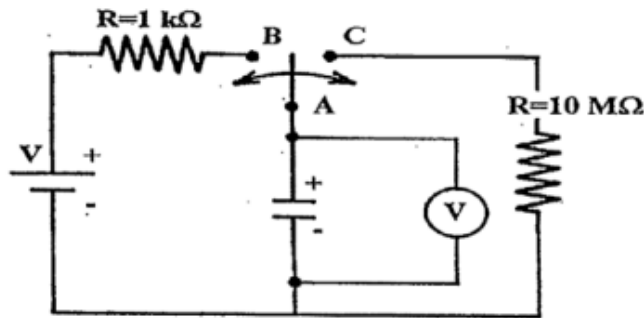

Figure 8.2: Circuit for studying charging and discharging of an RC circuit.
1. If the experimental set up in Fig. 8.2 has a 12.0V battery and a 10 μ F capacitor, determine the time it would take for the fully charged capacitor to decrease the voltage from 12.0V to 8.0V (switch will be in the discharging position A-C).
2. The two resistors, 1k Ω and 10M Ω , in this circuit (Fig.8.2) are different by many orders of magnitude. Explain why?
1. Using the setup in Fig. 8.2, replace the $10M\Omega$ discharging resistor with a $1M\Omega$ resistor.